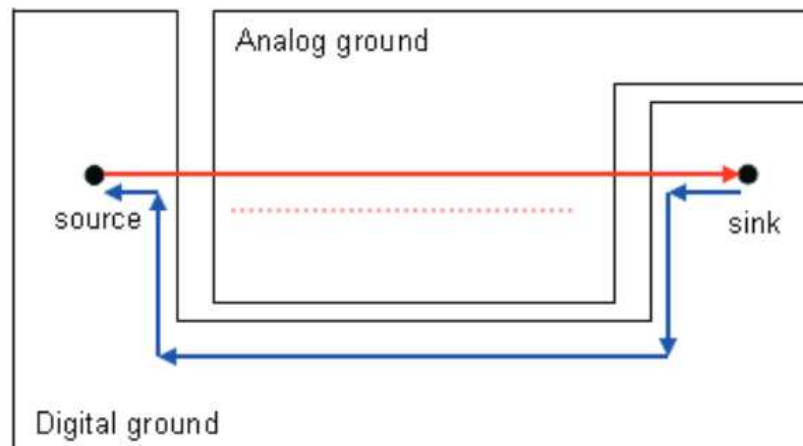

Figure 18. Loop Area and Crosstalk Due to Poor Signal Routing and Ground Splitting
- A routed trace over a gap creates large loop areas, because the return current cannot flow beside the signal, and the signal can induce noise into the nonrelated reference plane (Figure 18).